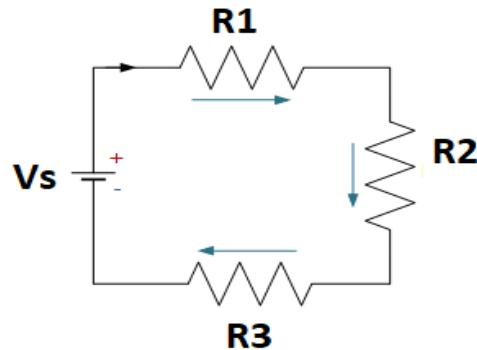

Fig. 1 Circuit for KVL
Applying KVL for figure 1
1. Set up the circuit on the breadboard as shown in the Fig. 1 using the resistors, power supply, and connecting wires.